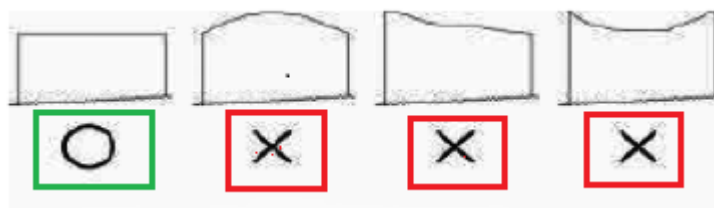

Figure 74. Printer paper cut
- Cut new paper roll end correctly to prevent paper jam, as shown in Figure 74